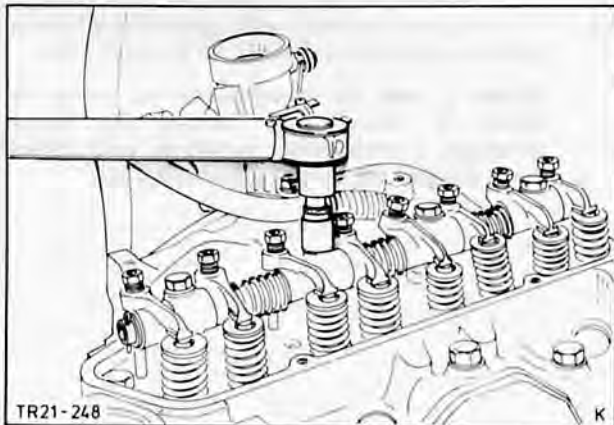

Fig. 68. Tighten rocker shaft bolts
64. Place rocker shaft in position, guiding rocker lever adjusting screws into push rod sockets. Tighten rocker shaft bolts by hand, then torque them as specified in Technical Data, Fig. 68.